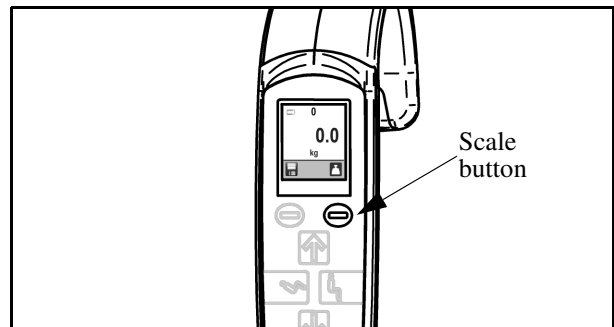

Fig. 62
1. Press the scale button to obtain a zero reading on the display (see Fig. 62).